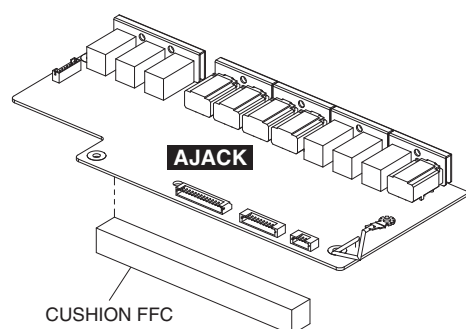

Fig. 5
- * The cushion FFC is not part of the AJACK circuit board. When replacing the AJACK circuit board, be sure to remove this part and attach it to the new AJACK circuit board. (Fig. 5)